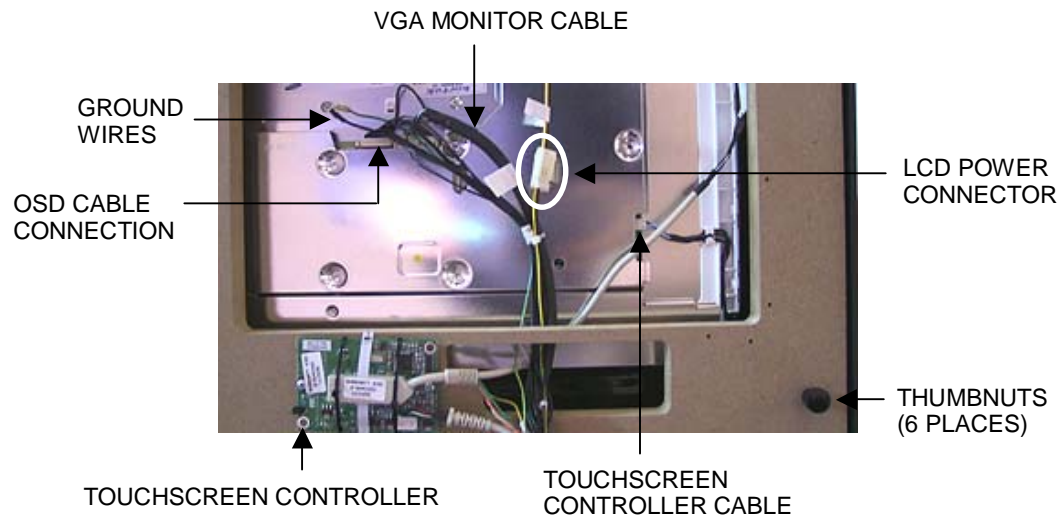

FIGURE 6 - REAR VIEW OF MONITOR / UNDERSIDE OF BEZEL
3. Remove the 6 thumbnuts fastening the bezel to the game. See Figure 6.
7. Remove the tie wraps securing the wire harnesses to the back of the monitor. Disconnect the VGA monitor cable connection and ground wire. See Figure 6.
8. Disconnect the LCD connector and remove the OSD cable connection from the monitor. See Figure 6.
9. Remove the tie wrap around the touchscreen controller and disconnect the touchscreen controller cable. Disconnect the Molex connector (orange and gray wires), as well. See Figure 6.
2. Lift the bezel to access the reverse side of the monitor. Connect the touchscreen controller cable to the touchscreen controller, then connect the Molex connector (orange and gray wires). See Figure 6.
3. Restore the OSD cable and the VGA monitor cable to the back of the monitor, and reconnect the VGA monitor cable ground wire. See Figure 6.
4. Reconnect the LCD power connector (black and yellow wires). See Figure 6.
6. Secure the bezel completely by fastening the 6 existing thumbnuts. See Figure 6.